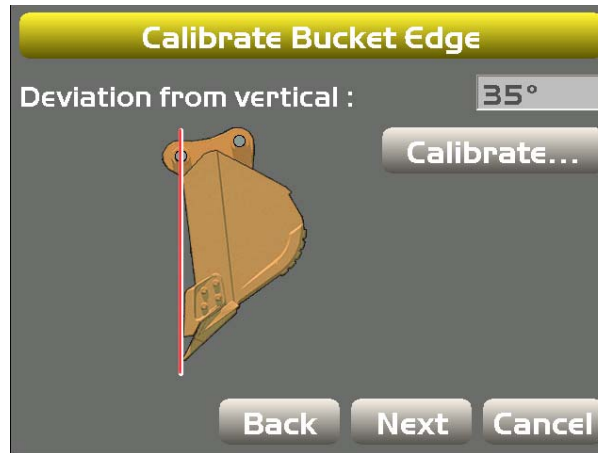

Figure 41: Calibrate Bucket Edge
2. With the bucket plumb, tap **Calibrate** from the **Calibrate Bucket Edge** screen (Figure 41); tap **Next** to go to the **Calibrate Bucket Base** screen.